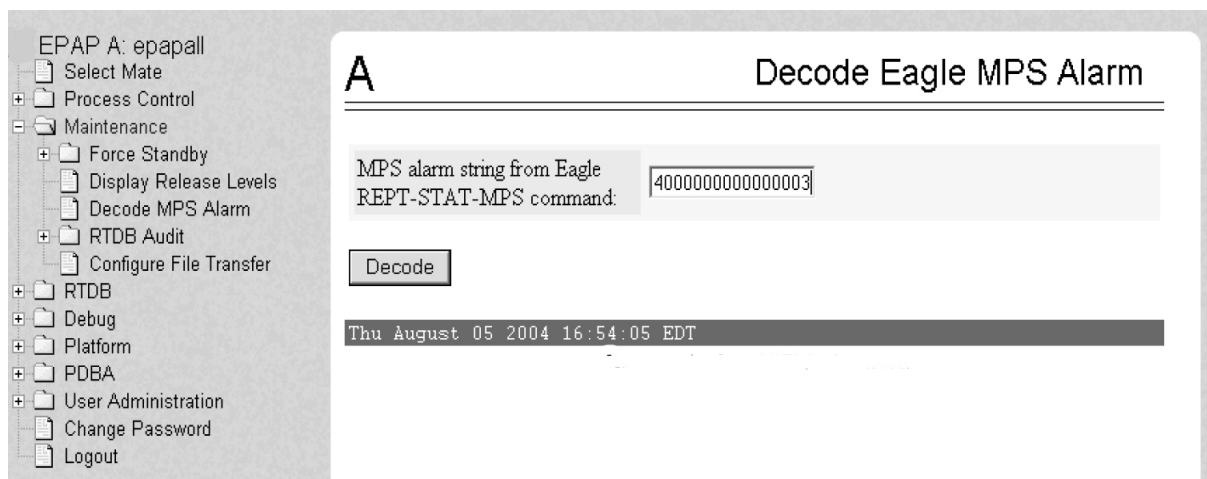

Figure 29: Decode MPS Alarm Screen
3. Enter the 16-digit alarm string into the window on the **Decode MPSAlarm** screen, as shown in Figure 29: Decode MPS Alarm Screen.